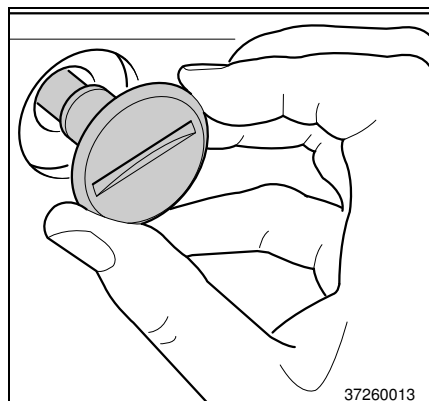

Fig. 26
- With assembled end panels remove the plug (Fig. 26) from the bottom panel installation point using a screw driver.